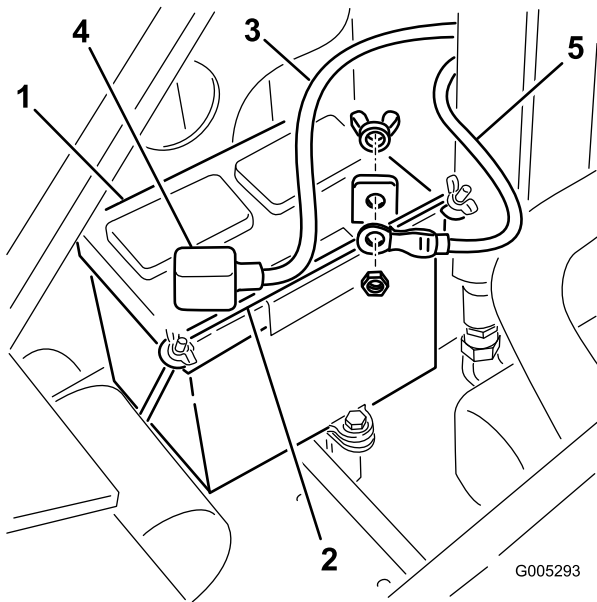

Figure 31
- Remove the wing nuts and bar securing the battery (Figure 31).
- Disconnect the negative (black) ground cable from the battery post (Figure 31). Retain the fasteners.
- Disconnect the positive (red) cable from the battery post (Figure 31). Retain the fasteners.
1. Using the fasteners previously removed, install the positive (red) battery cable to the positive (+) battery terminal (Figure 31).
3. Using the fasteners previously removed, install the negative (black) battery cable to the negative (-) battery terminal (Figure 31).
4. Secure the battery using the bar and wing nuts (Figure 31).